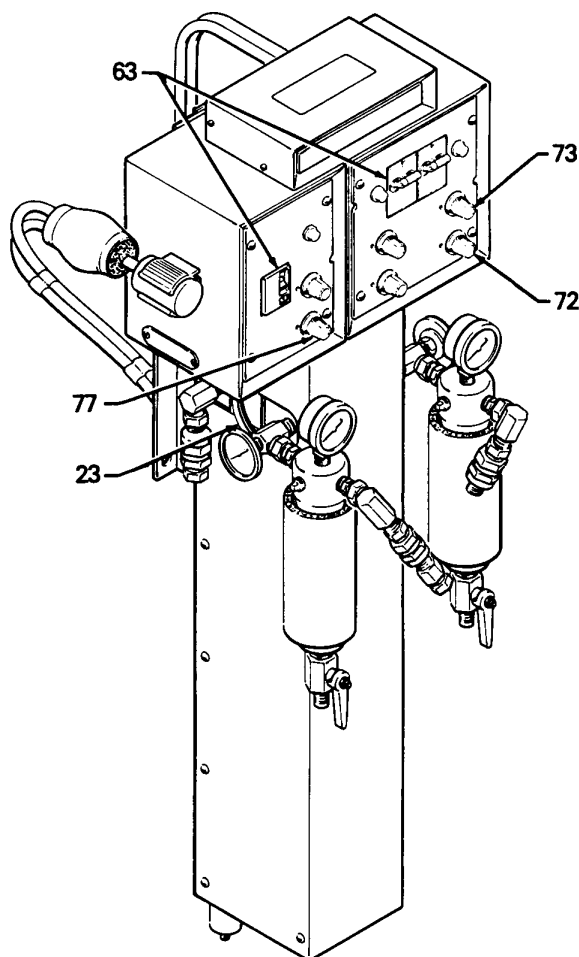

Figure 15
- Open the main air supply valve (1).
- Open the main air supply valve and the air valves (8) to the feed pumps (3). See the Typical Installation on page 5.
- Adjust the air regulator (212) to the proportioning pump motor to 50 PSI (3 bar).
- Slowly open the air valve (214) to the proportioning pump.
- Start the heaters. See Figure 15.